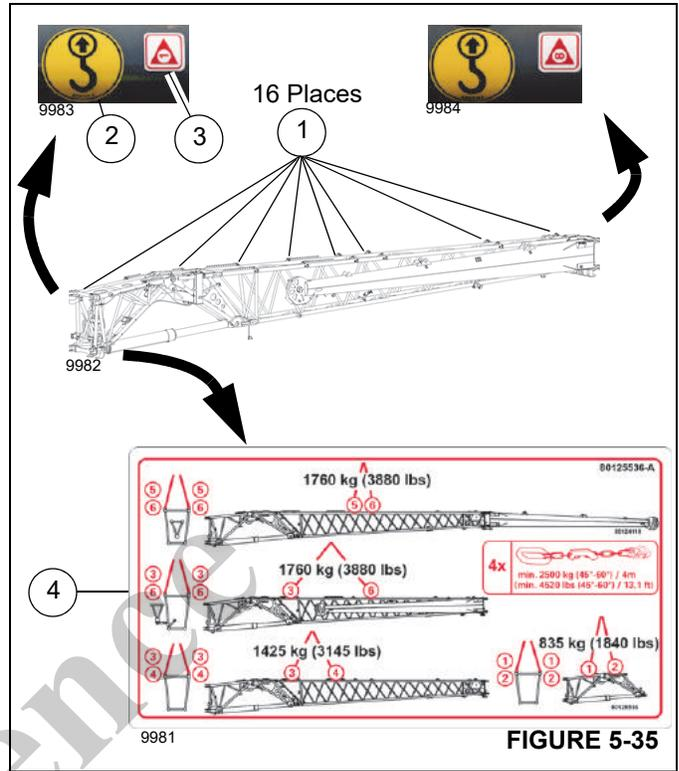

FIGURE 5-35
The boom extension base section features eight attaching points on each side (16 total) (1, Figure 5-35). Decals show the attaching points (2). The attaching point decals are numbered 1 through 8 (3). The Transportation and Lifting decal (4) shows the different supported lifting configurations: